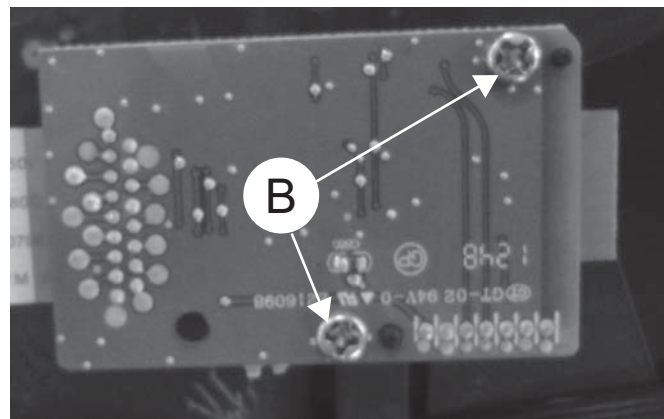

Figure 2
- 1) Loosen 2 screws "B" on the top of BT board as shown in figure 2.